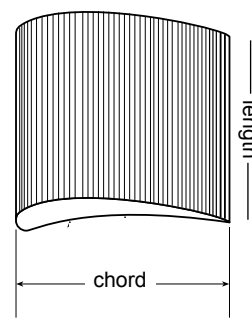

Figure 11
2. Measure the chord of your wing (Figure 11). Divide it by two.
6. With the ruler, measure the wing length (Figure 11) and divide by two. Measure and mark the resulting distance from one end of the 9" mounting rod. Put a few drops of epoxy on the end of the rod and insert it into the drilled hole. Push it until the mark is aligned with the wing edge. Set the wing/rod assembly aside and allow the epoxy to dry for 10 minutes. An example of a finished mounted wing is pictured in Figure 15.